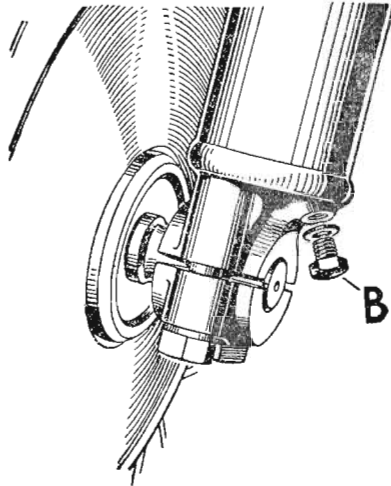
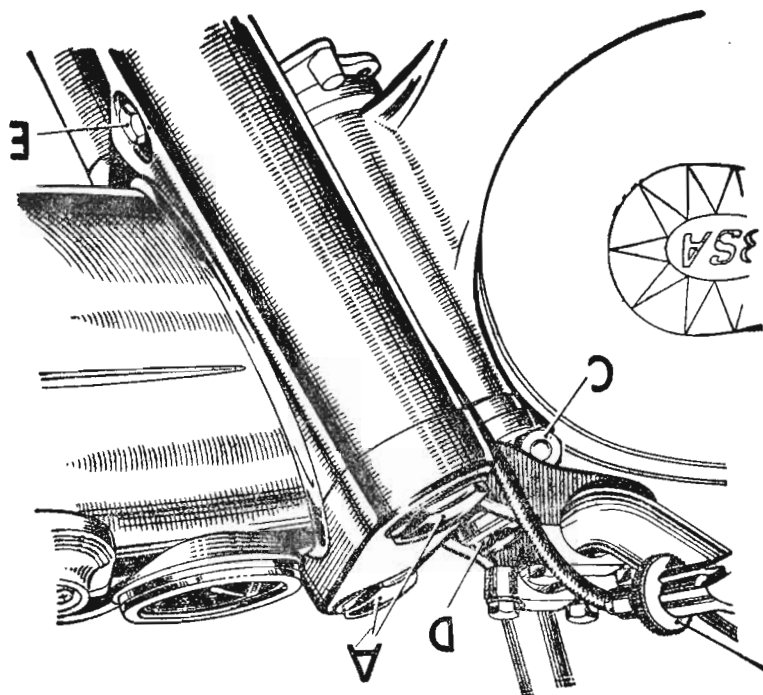

Fig. 18. Front fork drain plug.
Fig. 19. *Front fork and steering head.*
Remove the plug (A) Fig. 19, and the drain plug in the lower end of the fork sliding member as shown at (B) in Fig. 18. Allow all the oil to drain out, then apply the front brake and depress the forks a few times to drive out any oil remaining in the system.
Slacken the clamping nuts (C) and (E) Fig. 19, then tighten down the cap nut (D) until the adjustment is correct. Hold the handlebars lightly and move them round slowly. The steering must be free, and the forks must rotate smoothly. If the movement is "lumpy" it is a sign that the adjustment is too tight, or that the ballraces are damaged. When the adjustment is correct, tighten the clamping nuts (C) and (E). The latter clamps the fork shafts and must be quite tight.